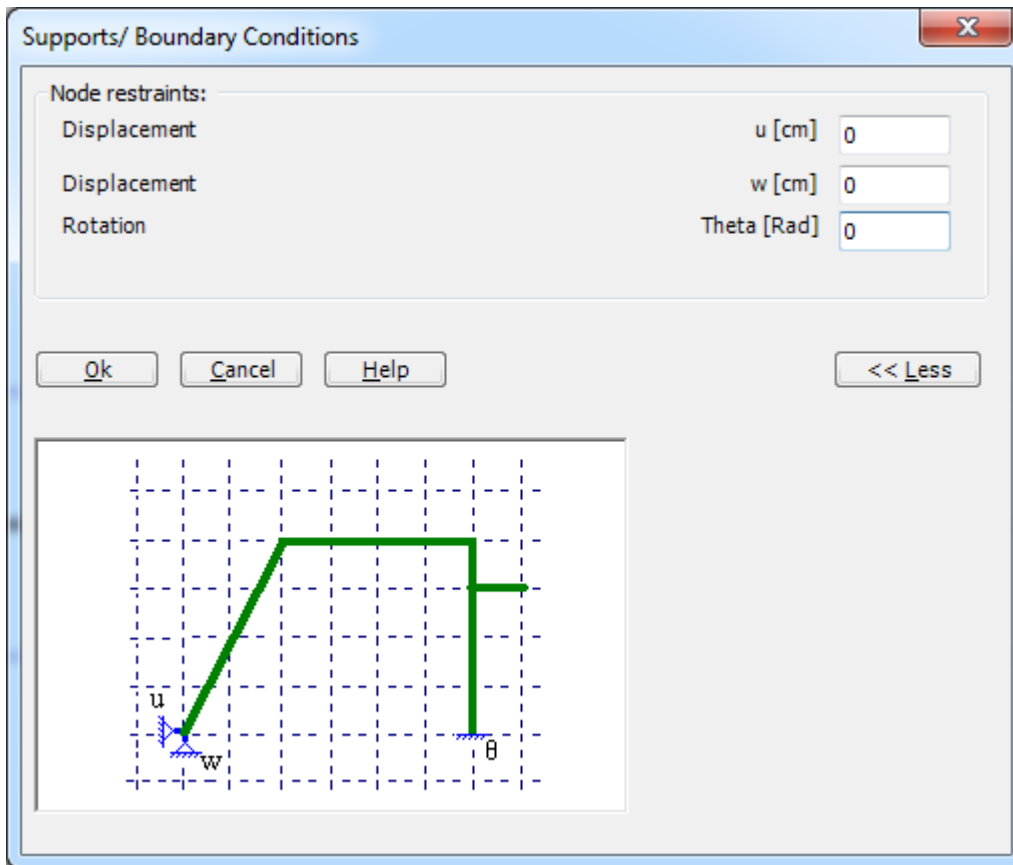

Figure 8.22 "Supports/ Boundary Conditions" dialog box
- "Supports/ Boundary Conditions" dialog box in Figure 8.22 appears